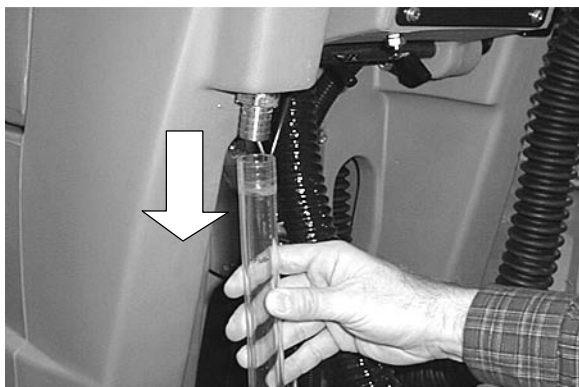

FIG. 20
1. Pull the clear hose off hose barb at rear of machine and drain solution into floor drain or bucket (Figure 20).